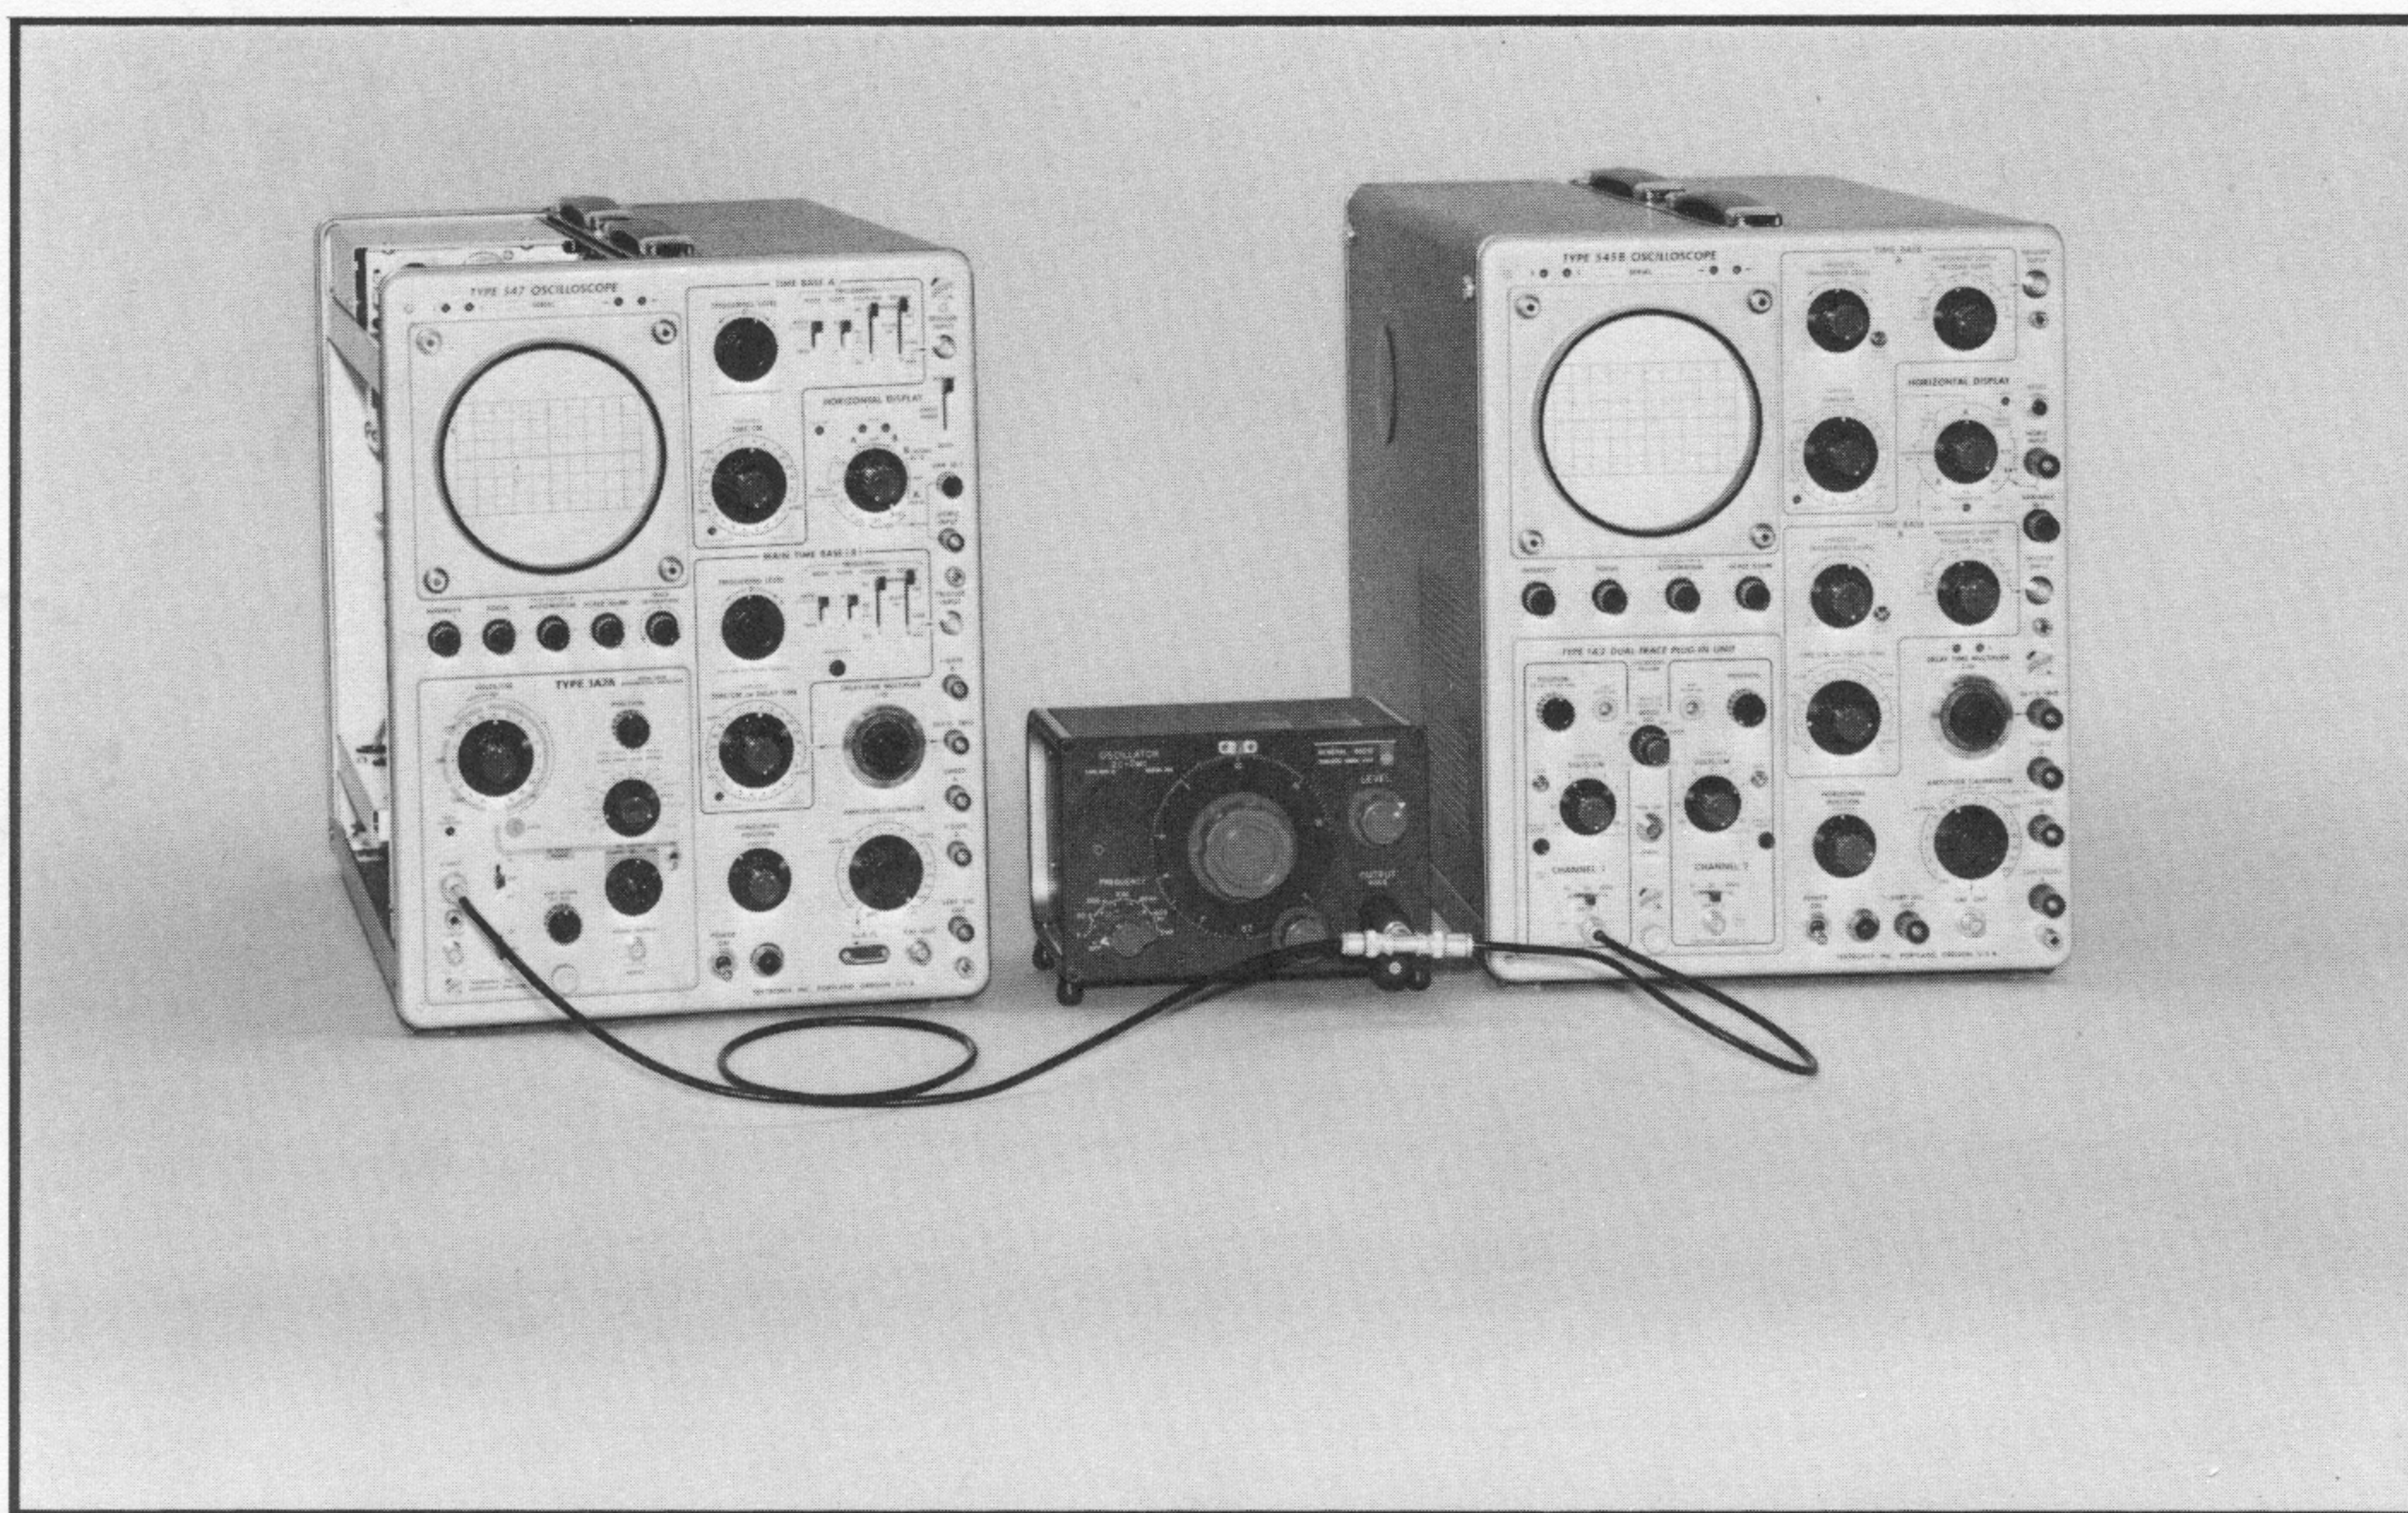

Fig. 5-29. Test equipment setup for step 27.
- Test equipment setup is shown in Fig. 5-29.